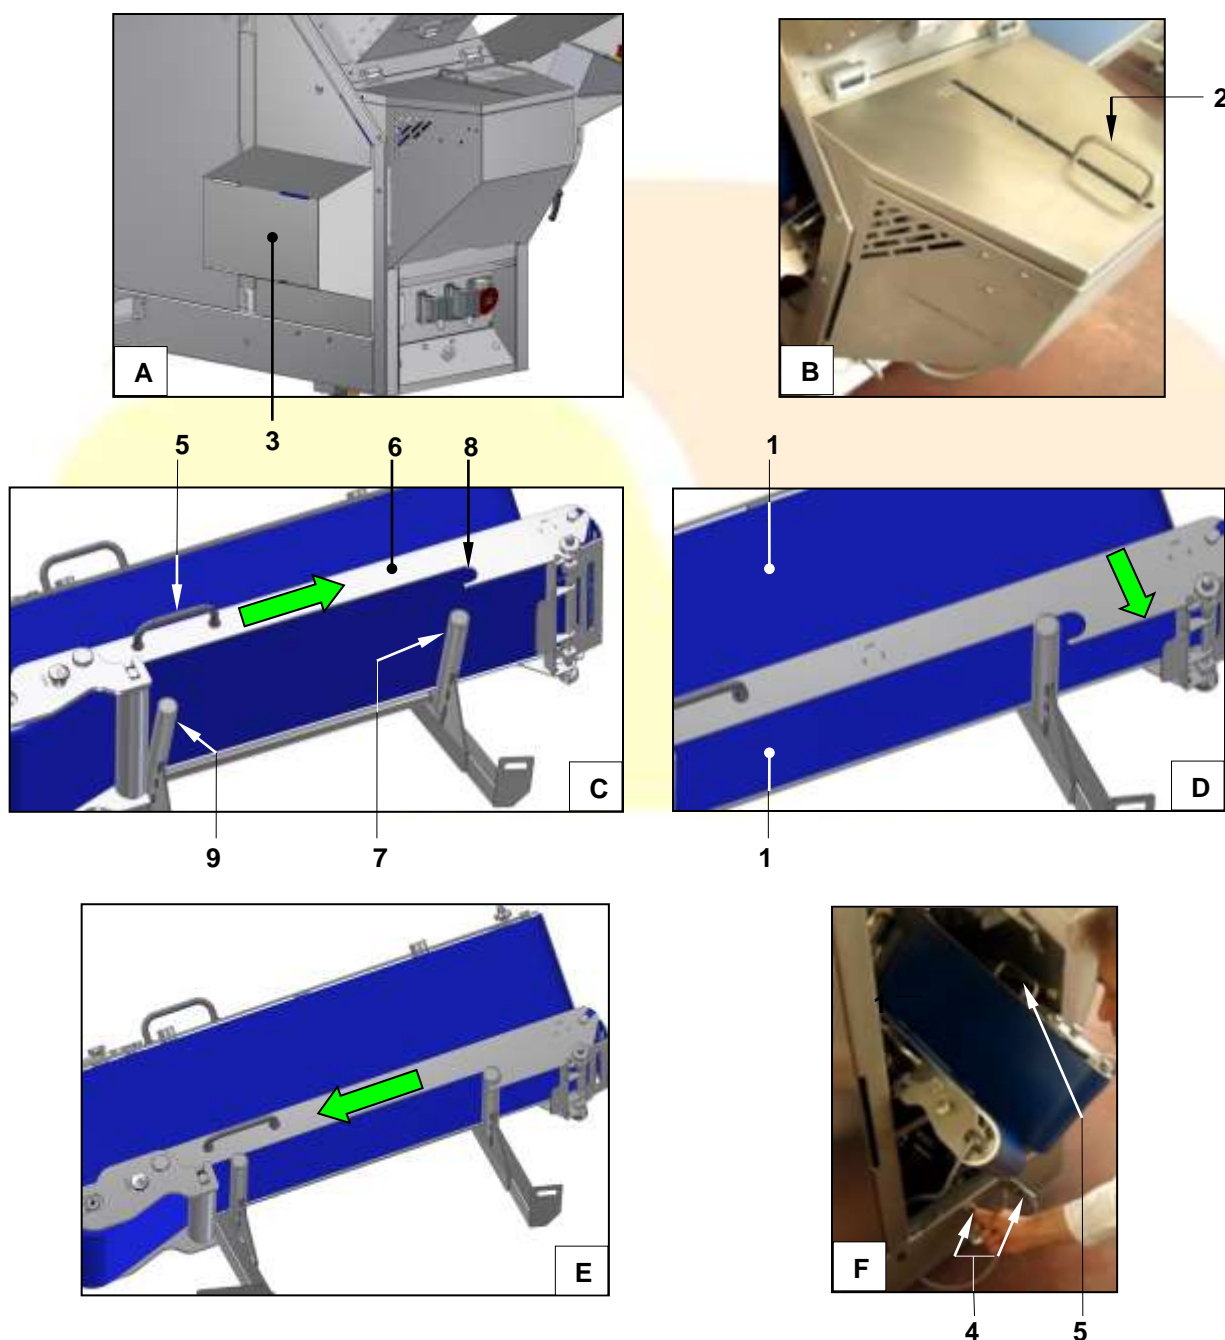

Figure 17 – Assembling the «V» belts
With reference to Figure 17, to **assemble** the belts ref. 1:
1. If present (optional), turn the handle ref. 2 (Figure B) that moves the dividing rollers all the way back.
2. Disassemble the side casing ref. 3 on the side opposite the product output, after having removed the screws that hold it locked into place.
3. Grab the handle ref. 5 and, supporting it from underneath with your other hand, insert the belt ref. 1 so that the structure ref. 6 remains inside (considering the «V» configuration) of the pins ref. 7 and 9, taking care that the housing ref. 8 remains beyond the pin ref. 7 (Figure C).
4. Letting it rest downward, turn the structure slightly towards the outside of the «V» (Figure D) until it is resting against the pins ref. 7 and ref. 9.
5. Pull the structure of the belt backward ref. 6 so that the pin ref. 7 enters the housing completely ref. 8 (Figure E); the weight of the belt itself will hold it in position.
6. Connect both connectors ref. 4: fit them together and block them by screwing the locknuts as tightly as possible (Figure F)
7. Reassemble the casing ref. 3 and tighten all the screws (Figure A).